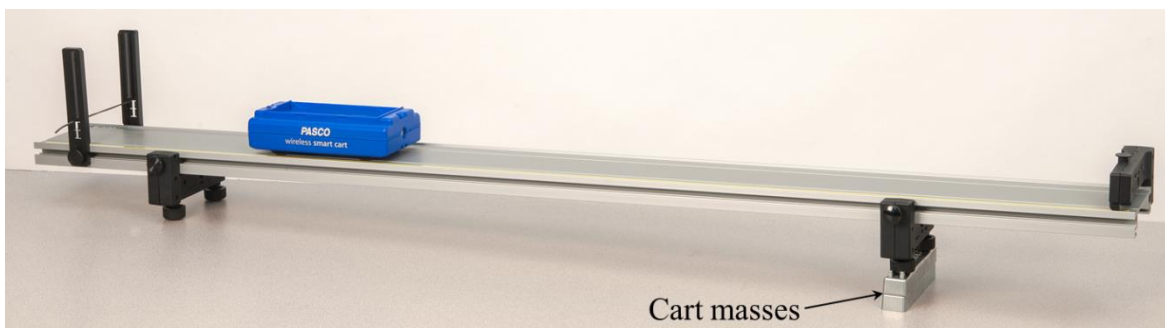

Figure 1: Smart Cart on Inclined Track
1. As illustrated in Figure 1, install the two Track Feet on the underside of the Dynamics Track, and then place the Cart Masses under the track feet on one side to incline the track.
2. Install the fixed End Stop at the top of the incline (see Figure 1), and an Elastic Bumper (see Figures 1 & 2) at the bottom.